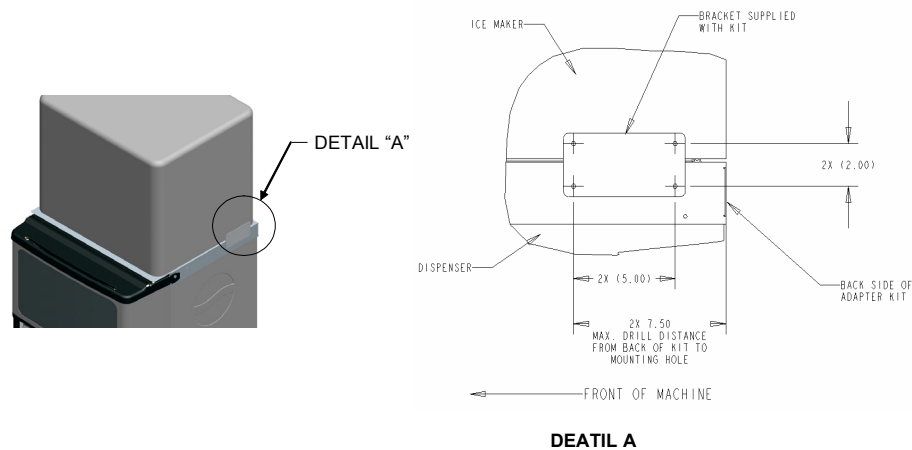

Figure 4
8. The next step is to secure the icemaker to the kit. Use the brackets (supplied) as templates to drill four 9/64" (.140" Dia.) holes into the adapter kit (2 per side). When drilling holes, the maximum distance from the back of the kit is 7.50 inches (refer to Figure 4) . Failure to comply will result in damage to the sliding arm mechanisms internal to the kit. Drill four holes of the same diameter into the icemaker (2 per side). Ensure the location of the brackets will not damage the kit or the icemaker prior to drilling any holes. **USE EXTREME CAUTION NOT TO DRILL INTO ANY OTHER COMPONENTS.** Drill depths should not go further than the thickness of the material being drilled (just enough to go through). Secure the two brackets using the screws provided.